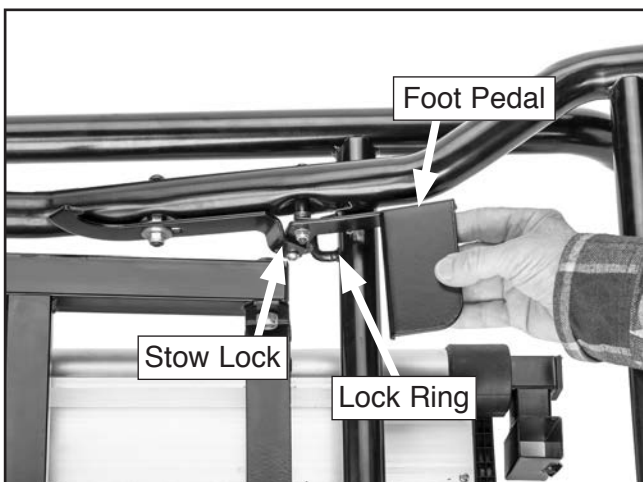

Figure 5. Releasing stow lock.
2. Press foot pedal down until stow lock disengages lock ring shown in **Figure 5**.